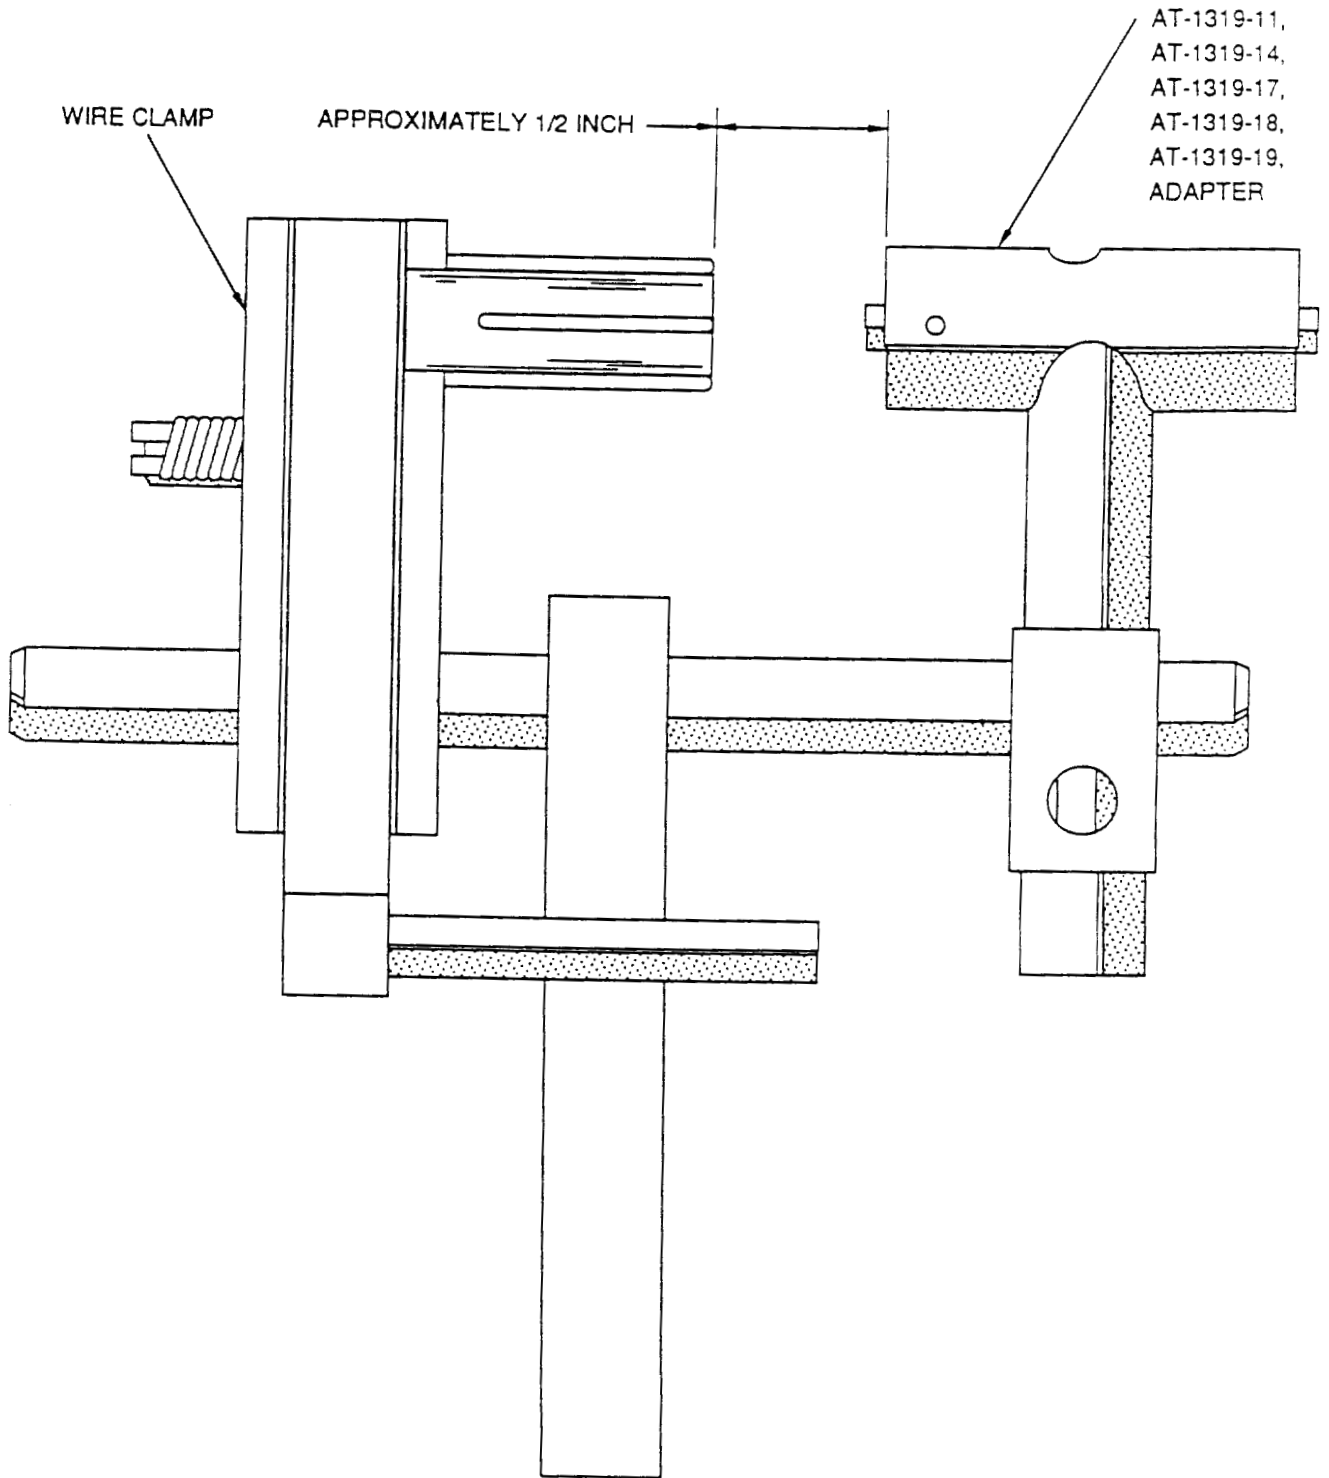

Figure 46. Holding Fixture and Adapter Setup
- b. Set up holding fixture and adapter as shown (Figure 46).